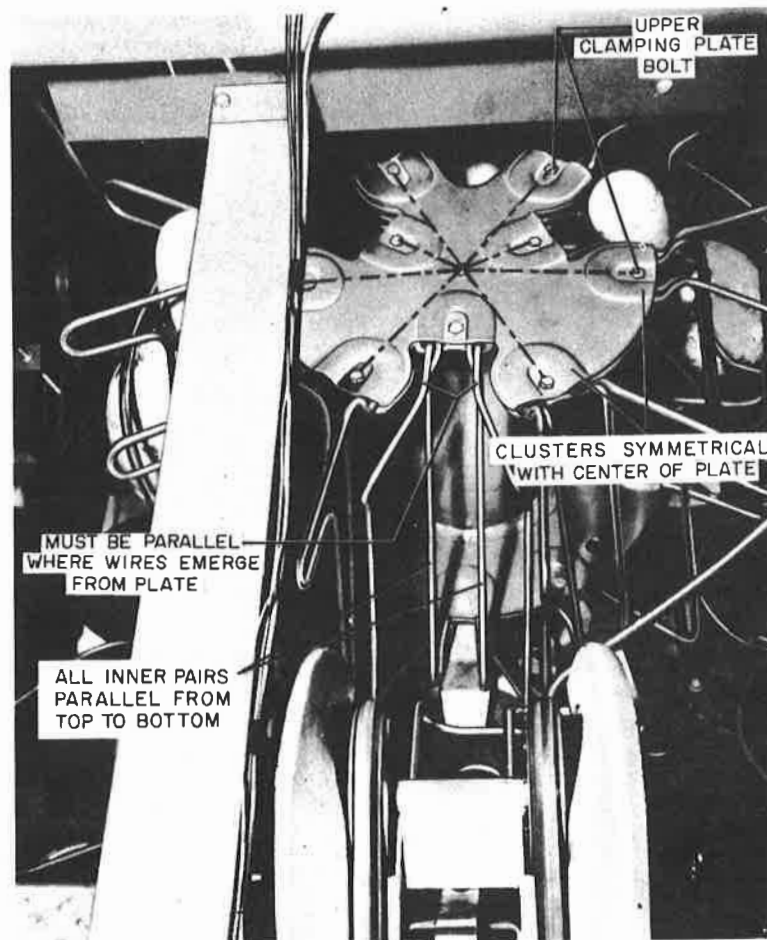

Figure 89. Turret Wire Adjustment
36. TURRET WIRE ADJUSTMENT. (FIGURE 89)